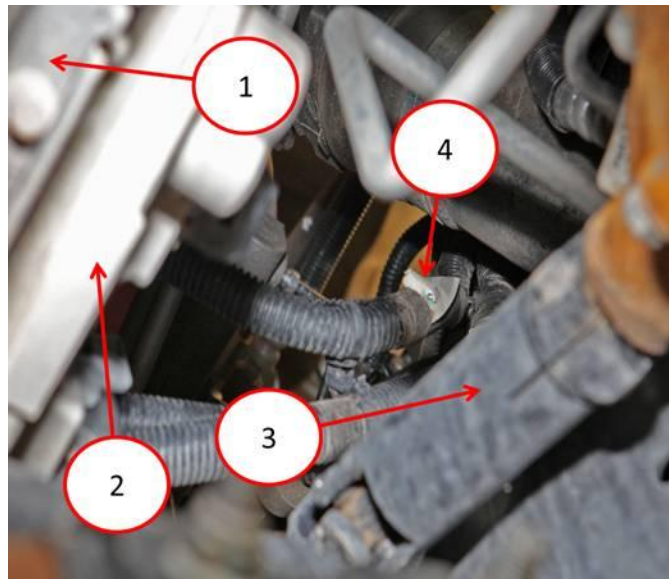
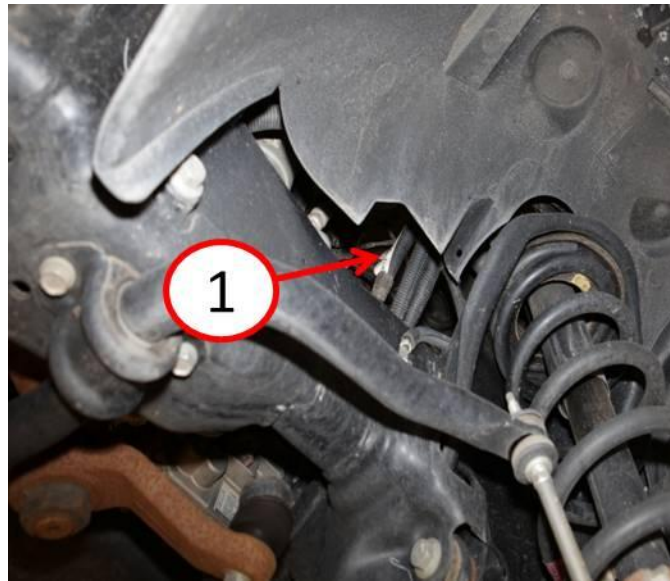

Fig. 1 LOCATION OF TRANSMISSION HARNESS TAG, VIEWED FROM BELOW
Fig. 2 TRANSMISSION HARNESS TAG, VIEWED FROM LEFT WHEEL WELL
1. Determine if the Oxygen Sensor Module wiring harness terminals require replacement. Inspect the tag on the Transmission Wiring Harness for the part number suffix (the last two digits). This wiring harness tag is attached to the harness at a point usually most visible from under the hood. Initially, it is easiest to locate the tag from under the vehicle. Follow the harness from the PCM (front) connector up to the takeout that heads toward the driver's side of the vehicle. The tag is located on this takeout, near the frame rail, behind the left front wheel well splash shield. See (Fig. 1) and (Fig. 2) for tag location references.